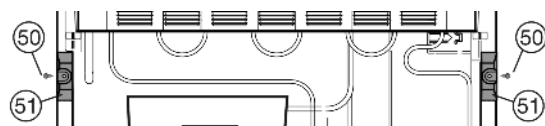

Fig. 12
► Undo the screw Fig. 12 (50) and detach the spacer Fig. 12 (51).